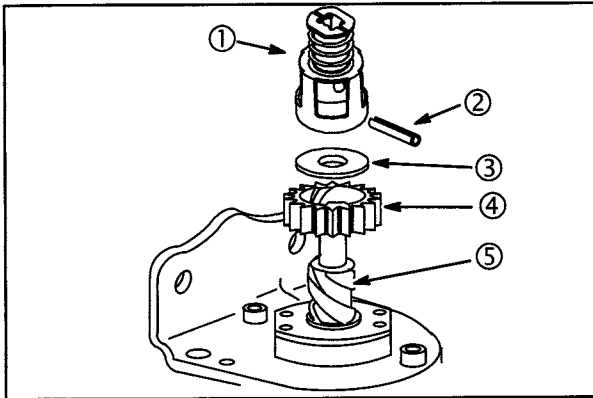

**Fig. 10**
1. Place starter drive retainer on support block, **Fig. 10**.